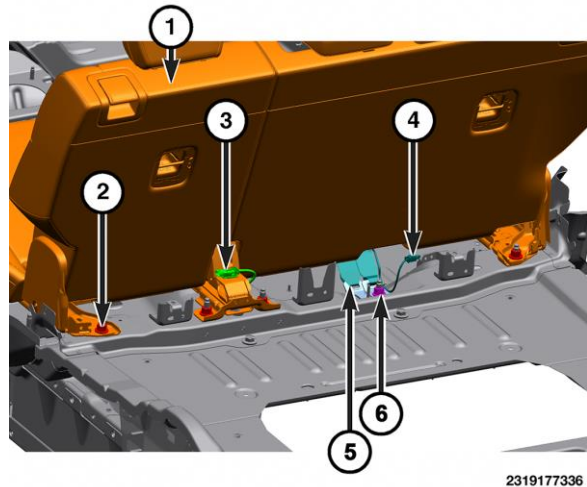

Figure 16 – Rear Seat Components
- 40. Disconnect the wire harness connectors, if equipped (4) (Figure 16).
- 41. Remove the nut for the center seat belt anchor (6). Remove the seat belts from the floor stud (Figure 16).
- 42. Remove the rear seat fasteners (2) at the rear of the seat (Figure 16).
12. Connect the wire harness connectors, if equipped (Figures 16 and 17).